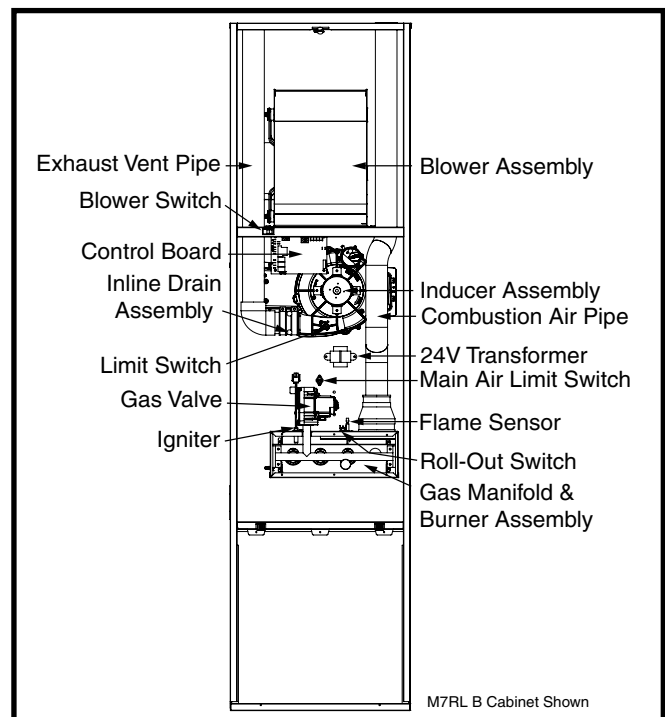

Figure 22. Furnace Components
If the burners must be cleaned, follow steps 1-12. See Figure 22 (page 28) for component location.
- If the inducer blower is operating, and items above have been verified, check the blower limit switch and reset if necessary. See Figure 22 for component location.
The descriptions below are various functional components that affect the operation and shutting down of this furnace. Some of these components and their locations are shown in Figure 22. If any component of the furnace must be replaced, use only factory authorized replacement parts specified in the Replacement Parts List provided online.